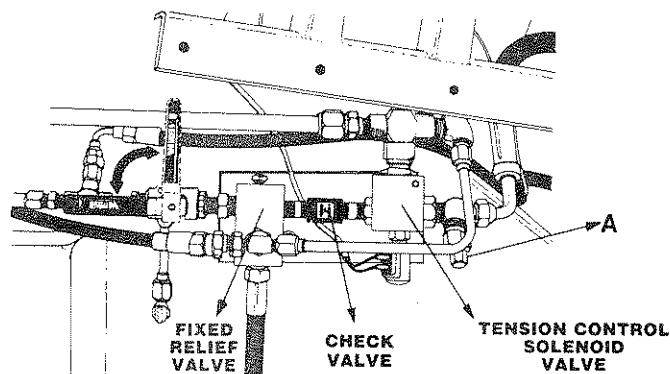

Fig. 50
2. Remove the 1/4 inch JIC cap on gauge port "A", see Fig. 50.